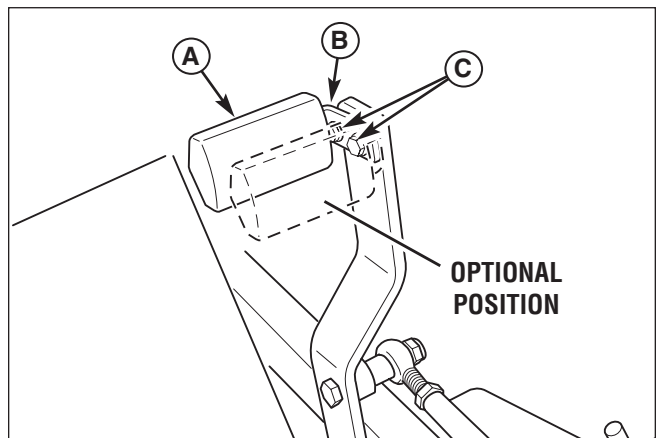

Figure 35. Foot Pedal Adjustment
1. Remove the foot pedal (A, Figure 35) from the pedal mount tab (B).
2. Remove the pedal mount hardware (C) and rotate the tab 180 degrees.
4. Reinstall the foot pedal on the pedal mount tab in the proper orientation as shown in Figure 35.